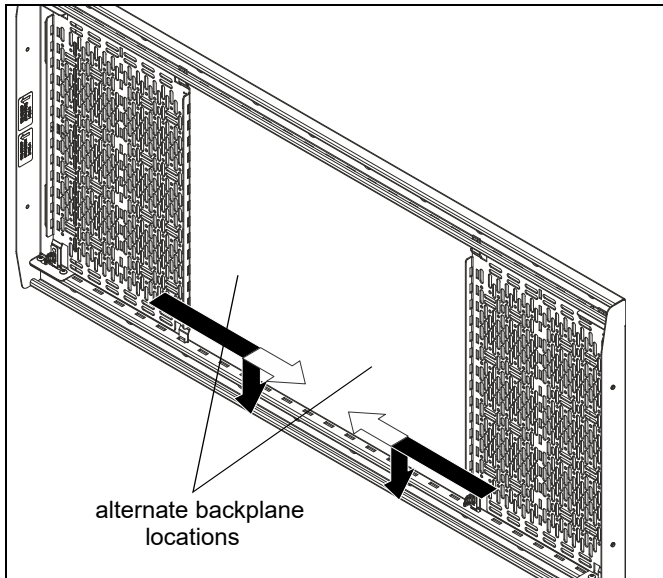

Figure 30
NOTE: Lever Lock™ shelves (D) may be installed at anywhere horizontally onto rail assembly (C) depending on application or user preference. (See Figure 30)